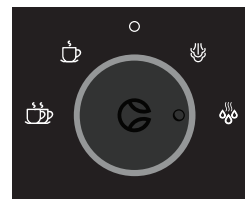

Fig. 11
2. Place a container under the steam wand, and rotate the Dynamic Control Dial clockwise to the Hot Water setting (see Figure 11).